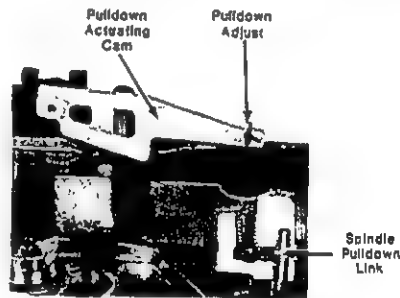

Fig. 3-12. Spindle Pulldown Link
Adjust spindle pulldown lever link (item 37) so that spindle retaining yoke assembly (item 28) bottoms out, just touches turntable as loaded caddy is being inserted into the player. Clockwise rotation of lever link (item 37) pulls yoke assembly toward turntable, Figs. 3-12 & 2-13.